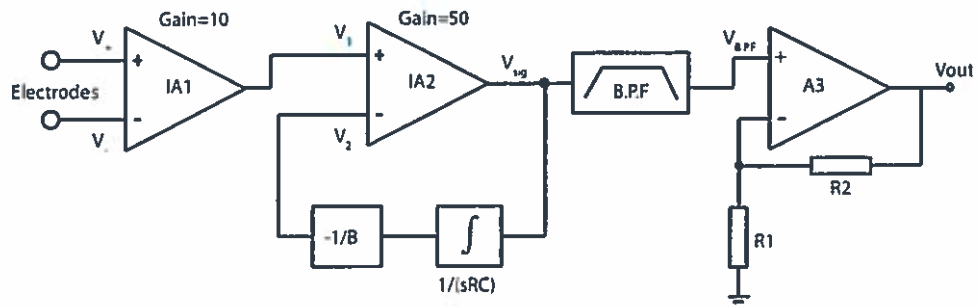
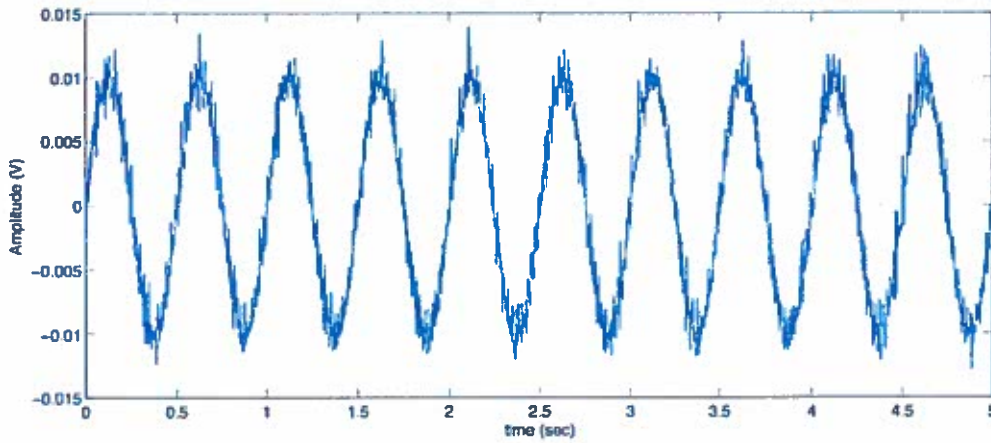

Figure 1.1
Figure 1.2, EMG signal with motion artifact
b) Table 1.1 lists five commonly observed bio-potentials and their amplitude and frequency characteristics. A doctor requires an instrumentation system to record activity from the quadriceps muscles to aid rehabilitation during stair climbing. A schematic of a suitable instrumentation system is shown in Figure 1.1 to measure the signal in Figure 1.2. The gains of the first and second instrumentation amplifiers are 10 and 50 respectively and the system runs off a $\pm 3V$ supply.
(i) Design a suitable band pass filter (B.P.F in Figure 1.1) to extract the signals of interest. You may assume a 40dB/decade roll off for the low-pass and 20dB/decade roll off for the high pass sections. State equations for cut off frequencies and select suitable resistors. You may assume you have 10nF capacitors to your disposal. Show all circuit schematics and annotate component values. [4]
When the doctor conducts the stair climbing experiment he notices significant interference on the EMG signal, as shown in Figure 1.2, of a periodic nature.
ii) Why will this be a problem for the instrumentation system shown in Figure 1.2?
iv) Choose suitable values for B, R to filter out the unwanted signal shown in Figure 1.2, assuming $C=10nF$. [2]
v) Calculate values for resistors R1 and R2 to maximize the dynamic range for the detected signal shown in Figure 1.2. [3]